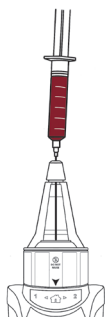

Figure 6
- Insert the cannula into the valve on top of the Disposable Unit (Figure 6).